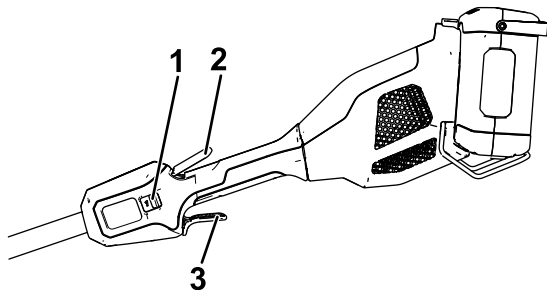

Figure 9
4. To start the trimmer, squeeze the lockout trigger, then squeeze the run trigger (Figure 9).